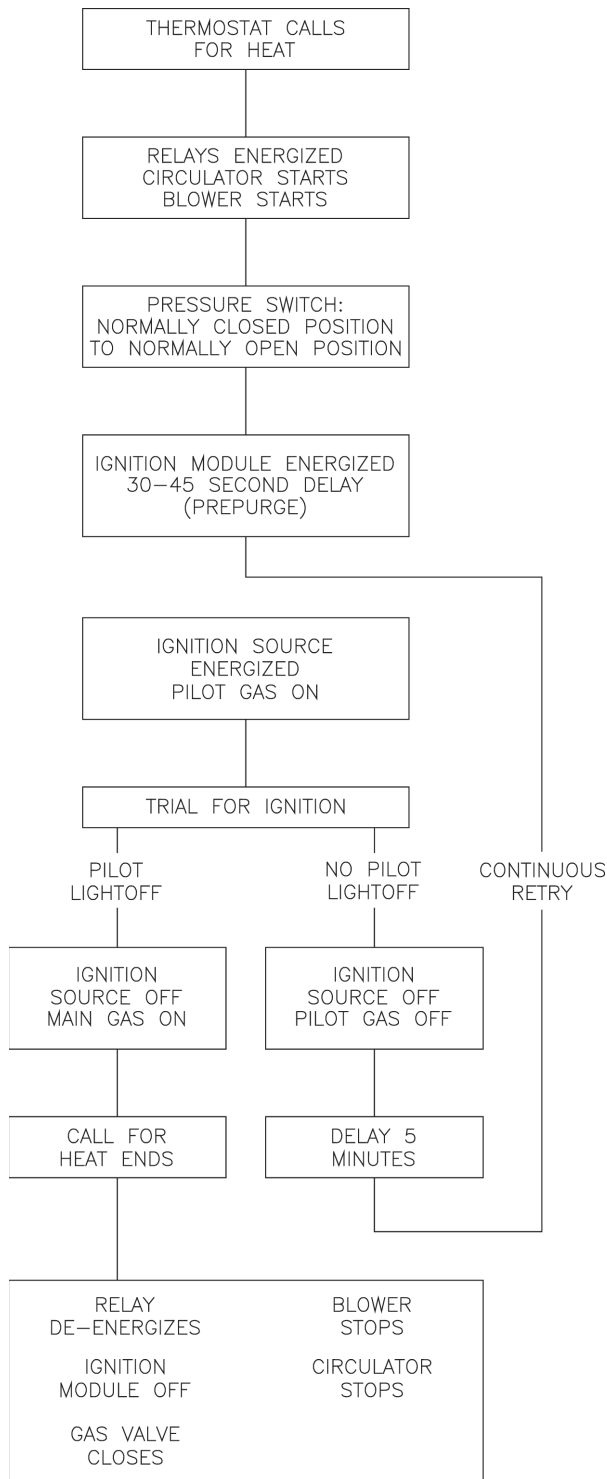

Figure 39: Sequence of Operation
- I. Sequence of Operation.** See Figure 39. If boiler fails to operate properly, see Troubleshooting Tree in Section IX: Service.